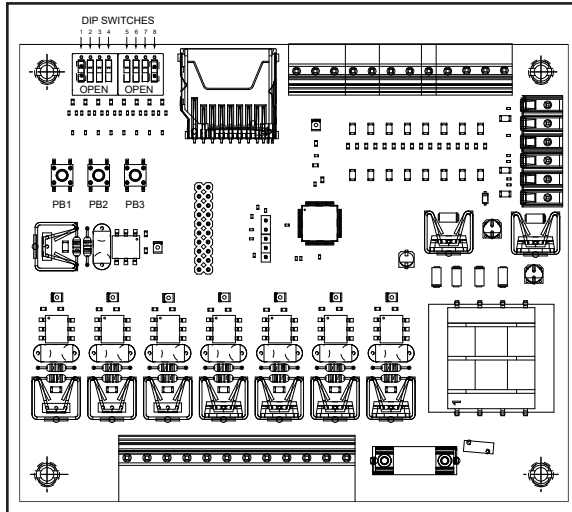
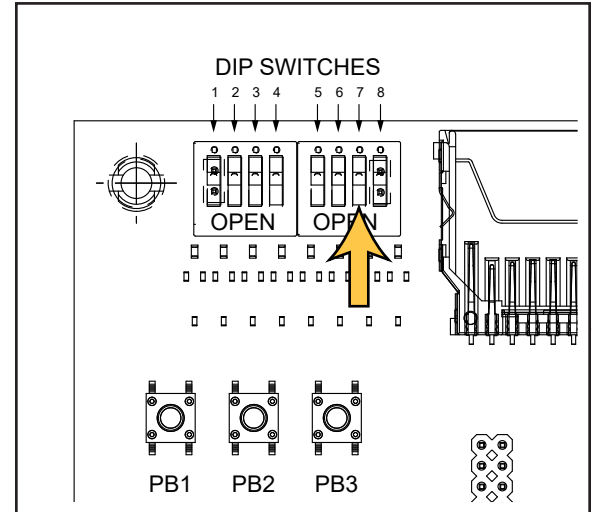

Fig. 67 - Circuit Board
Fig. 68 - Circuit Board Dip Switch 7
1. Toggle Dip Switch 7 to the open position on the circuit board to turn on the I/O display screen overlay (see Fig. 67 and Fig. 68).